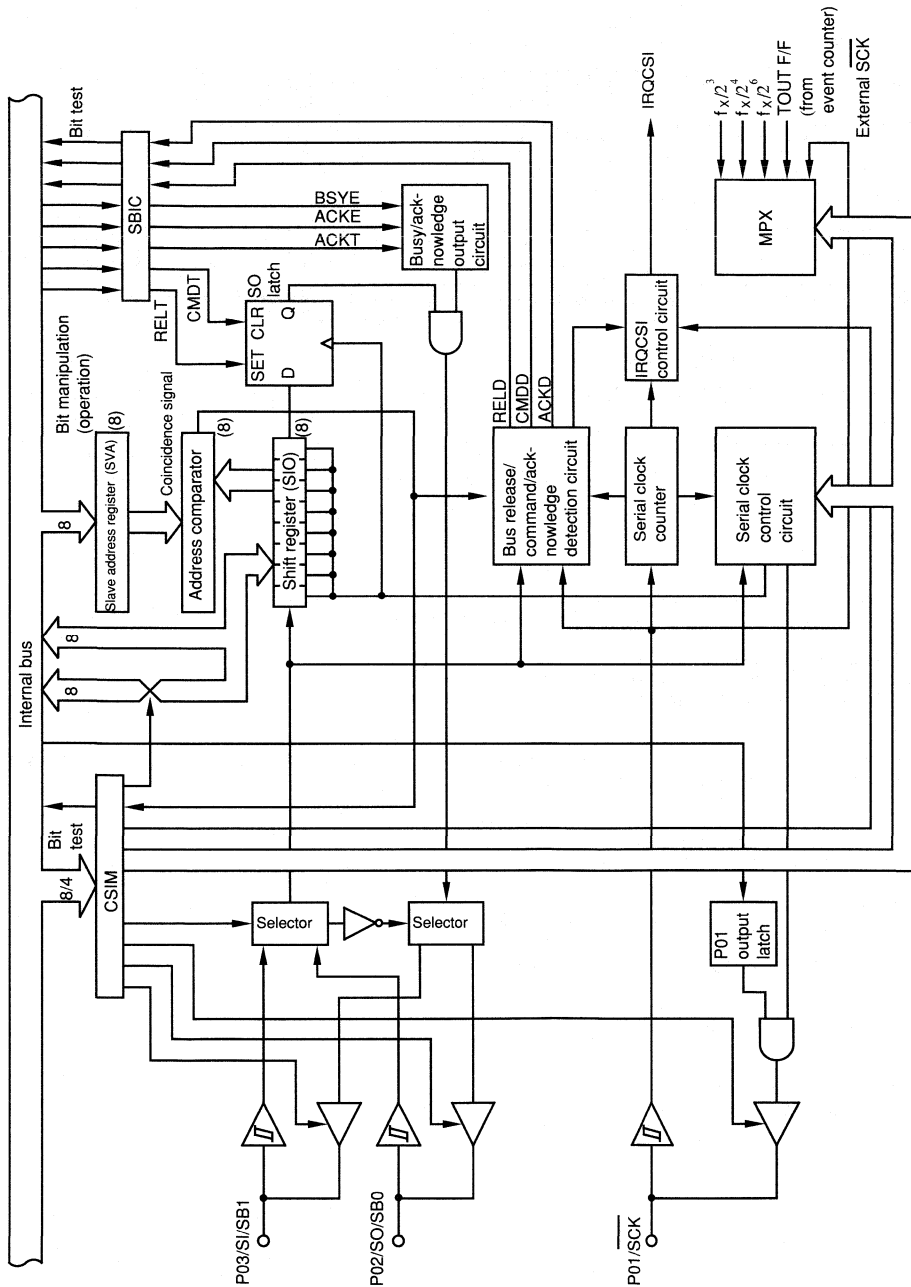

Figure 5.6.2 Serial Interface Block Diagram
The μPD753XX has a clocked serial interface (CSI) as shown in Fig. 5.6-2.
(1) 3-line serial I/O mode
(2) SBI (serial bus interface) mode
- Address, command, and data can be transferred, and a hardware function for discriminating the signals is included. (See Fig. 5.6-2.)